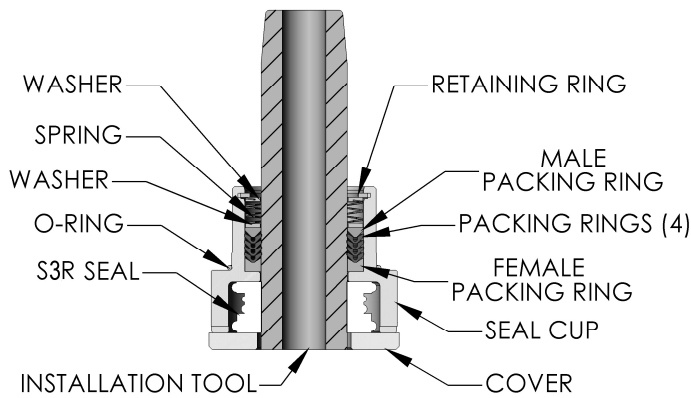
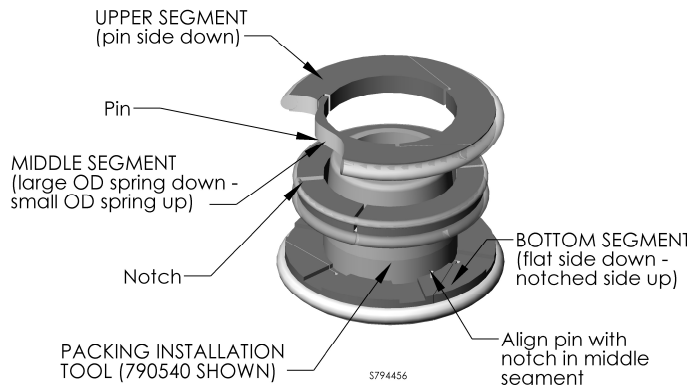

Figure 14a – Seal Cup Assembly
Figure 14b - S3R Oil Seal Installation
- g. Install the S3R seal in the seal cup as shown in figure 14a. Place the S3R seal on the packing installation tool in the order shown in figure 14b, with the upper segment toward the tapered end of the installation tool. Insert the installation tool, with the S3R seal, into the seal cup, with the tapered end toward the packing rings. Place seal cup cover on seal cup and secure with two capscrews.